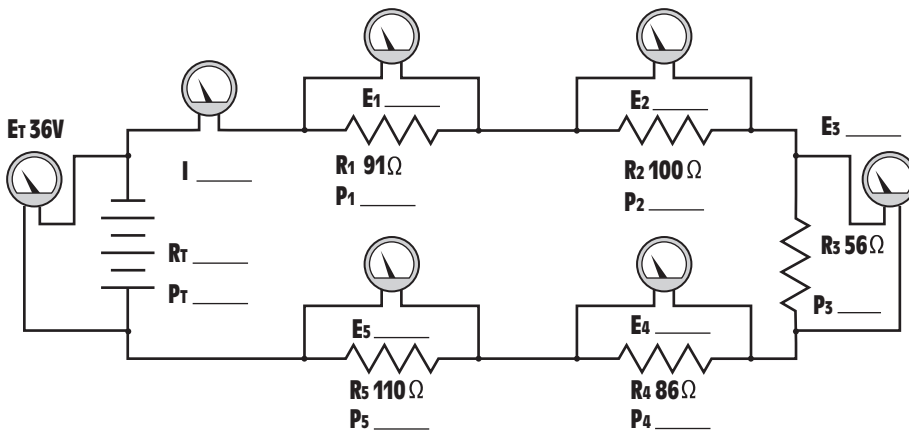

Figure 5-29 Practice Problem 4.
4. Find the missing values in the circuit shown in *Figure 5-29*.